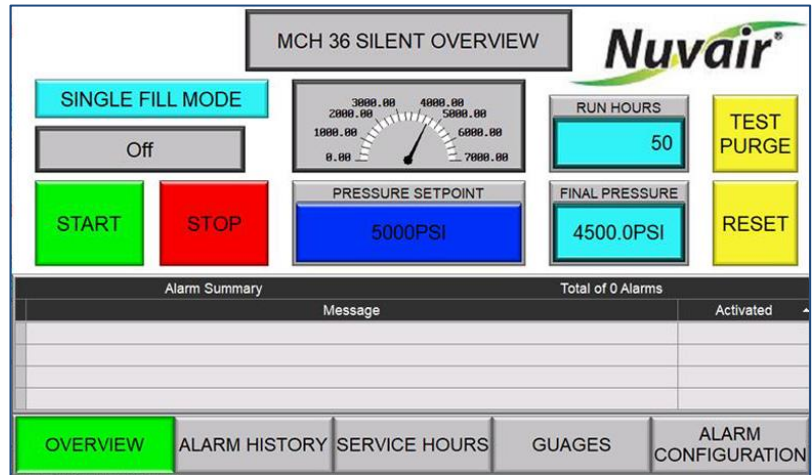
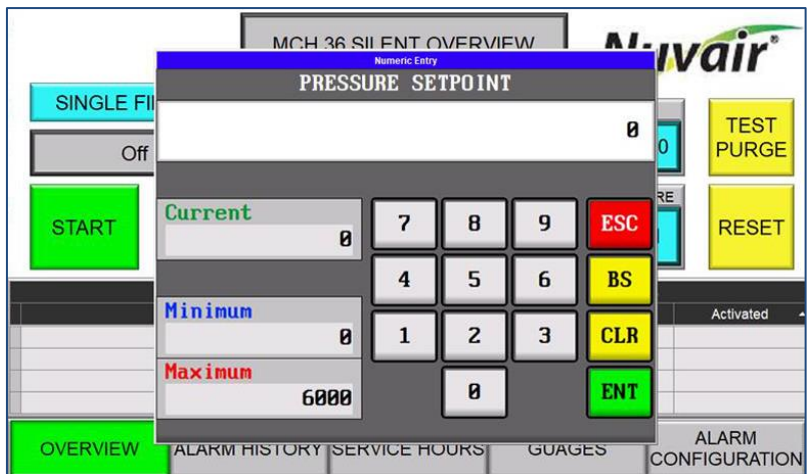
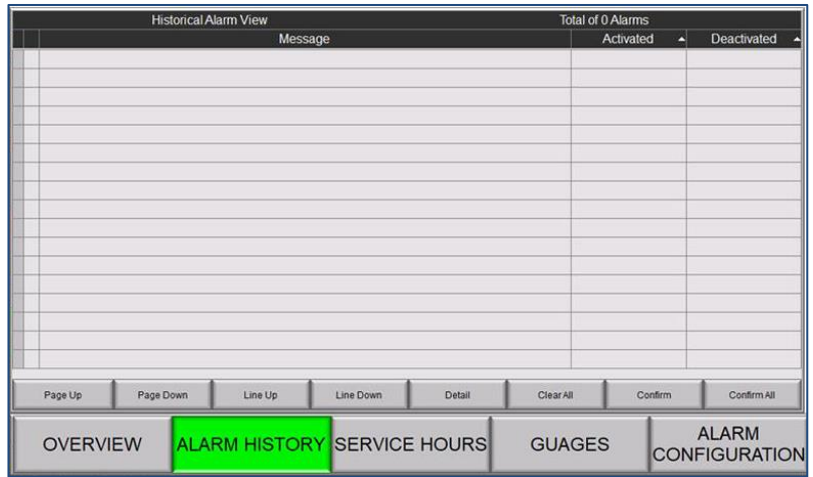

Figure 3. Dashboard overview screen.
Figure 4. Pressure Setpoint input screen.
Figure 6. Alarm History screen.
2. Select the blue box under “PRESSURE SETPOINT” (Figure 3) and the Pressure Setpoint screen appears (Figure 4).
5. If “SINGLE FILL MODE” is displayed in the upper-left corner (Figure 3), the compressor will not restart. If “AUTO RESTART MODE” is displayed, the compressor will automatically restart when the internal pressure drops.
The overview screen (Figure 3) provides the general status and operation of the compressor. Using this screen, the compressor functions include:
This page is a record of alarm or service events (Figure 6). The alarm event type will be noted, when the alarm activated, and when the user clears or “deactivates” the alarm. Service events will record the date it was reset.
When an alarm event threshold is reached, the button color turns yellow and the system will either (a) sound an alarm, and/or (b) shut down the compressor. The alarm event is logged and will display in the Alarm History screen (Figure 6) and under the Alarm Summary section of the Overview screen (Figure 3).